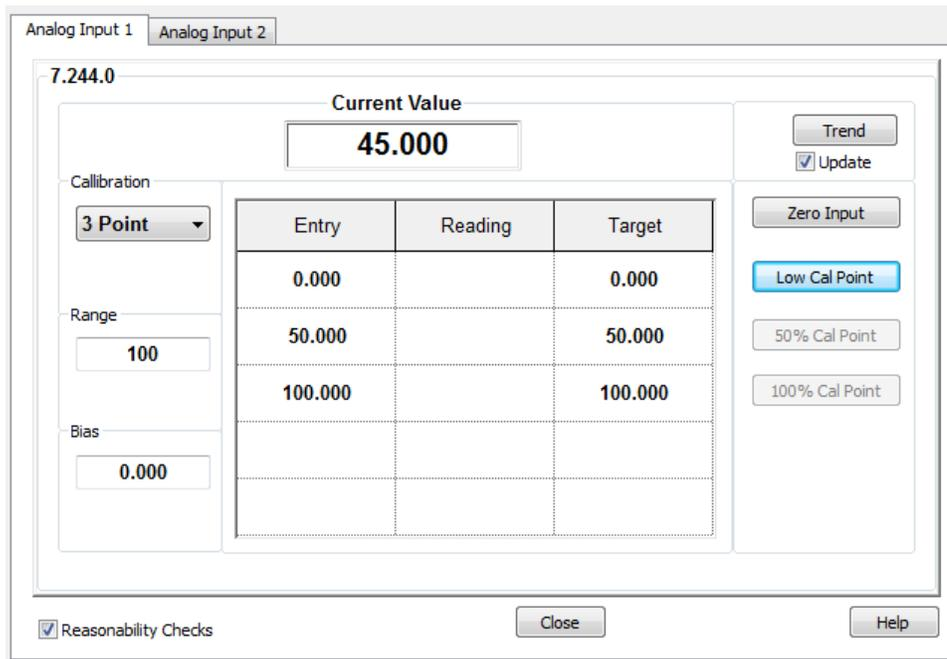

Figure 99: 3-point AI calibration screen (voltage mode)
8. Select either a **3-** or **5-**point calibration from the corresponding drop-down menu (Figure 99).